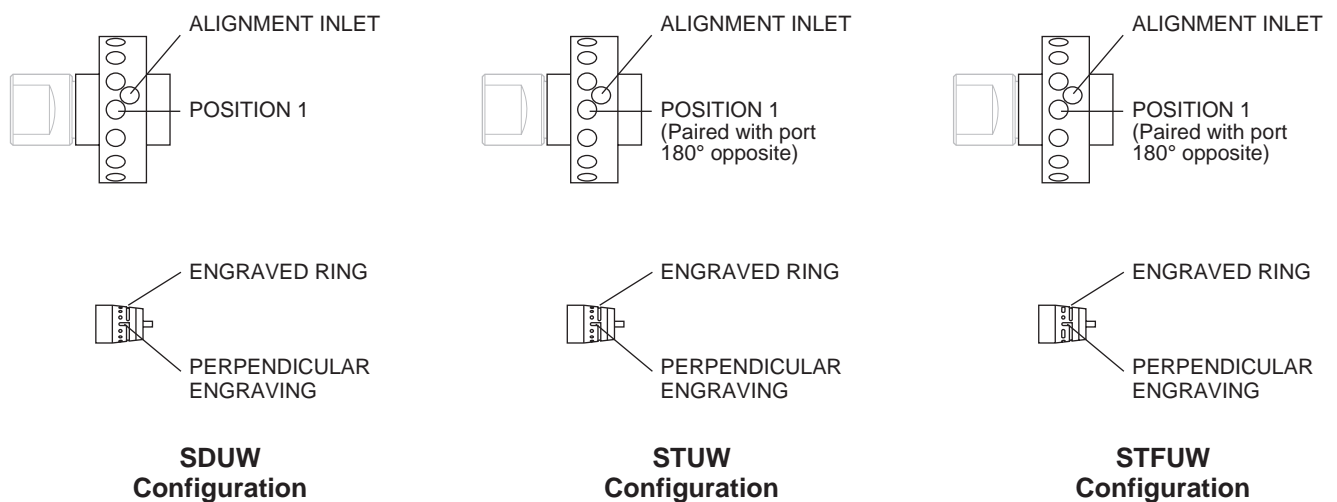

Figure 2:
UW valves have one row of ports evenly spaced around the circumference of the body. See **Figure 2**. In addition, there are one or two “common” ports offset toward the actuator. (On ST or STF valves with two offset ports, the ports are 180° opposite, so only one is visible in **Figure 2**.) With the valve close to you and the actuator away, Position 1 falls to the right of or clockwise from the common port(s). The SD rotor has one flow passage appearing as an engraved ring around the seal, which intersects the common port(s). A flow passages perpendicular to the ring connect the ring to the selected port. On ST and STF rotors, the ring is broken into two arcs, each with a perpendicular passage at the end.
3. Establish a flow of clean gas (50 psi is adequate) into the alignment inlet designated in **Figure 2**.